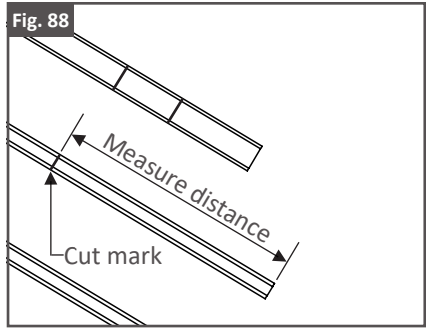

Fig. 89
12. Position the back edge of upright in line with the previously marked rail reference marking and flush with the rails. As shown in Fig. 89.